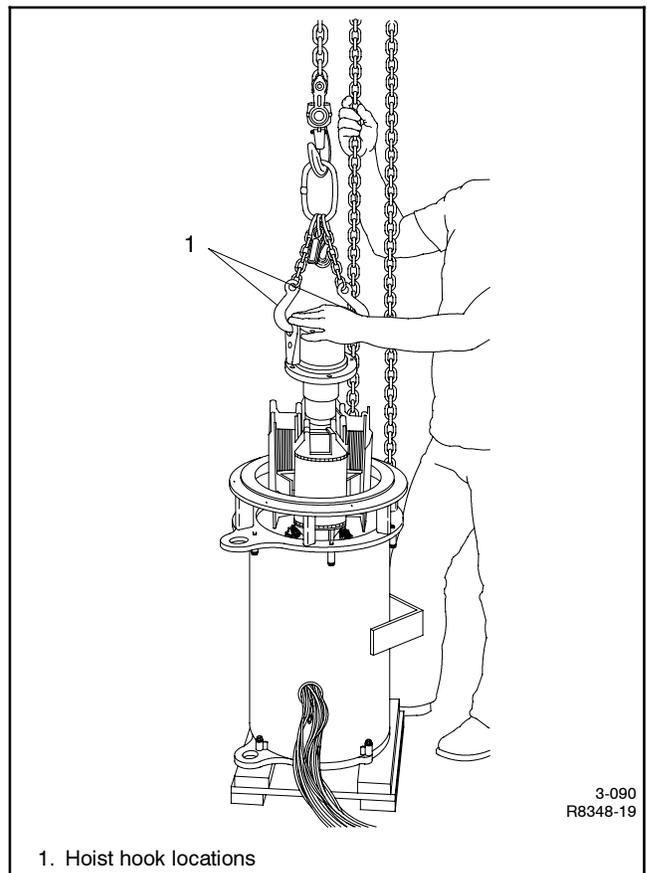

Figure 4-7 Rotor Removal
- Fasten the lifting eye and hoist hook to the rotor flange. Hoist the rotor assembly carefully to avoid damaging the photo transistor circuit board, exciter armature, or exciter field magnets. See Figure 4-7.